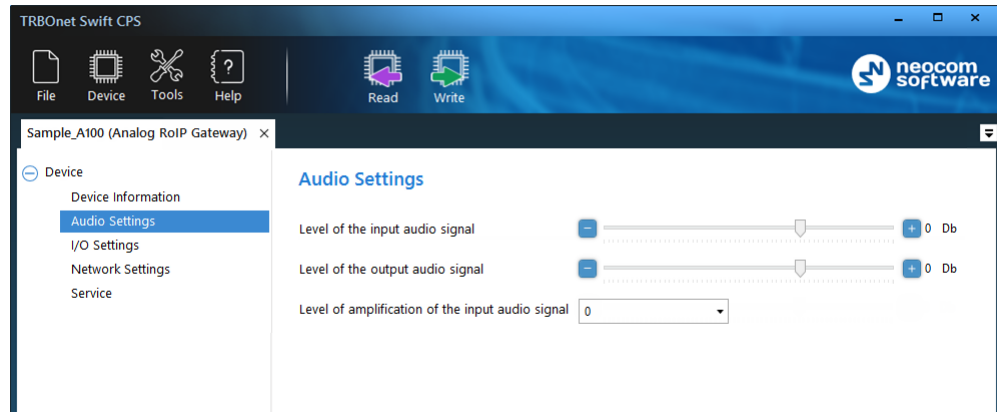

Figure 14: Configuring the audio signal
6. Click **Audio Settings** in the left panel. In the right panel (Figure 14), do the following: